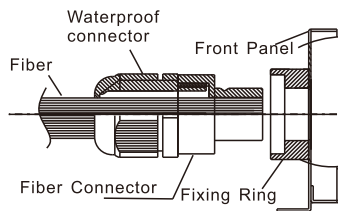

Fig. 2
C. The Installation of fiber optic: (see Fig. 2)